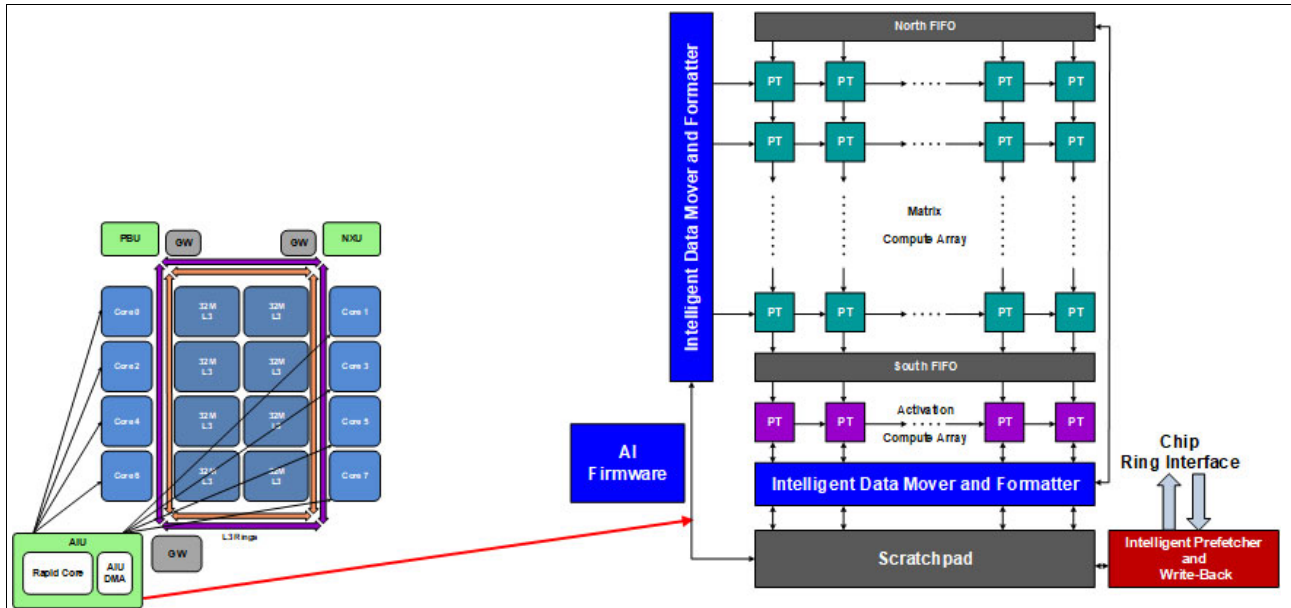

Figure 12-8 AIU logical diagram
The logical diagram in Figure 12-8 shows the AI accelerator and its components: the data movers surrounding the compute arrays composed by the Processor Tiles (PT), the Processing Elements (PE) and the Special Function Processors (SFP).